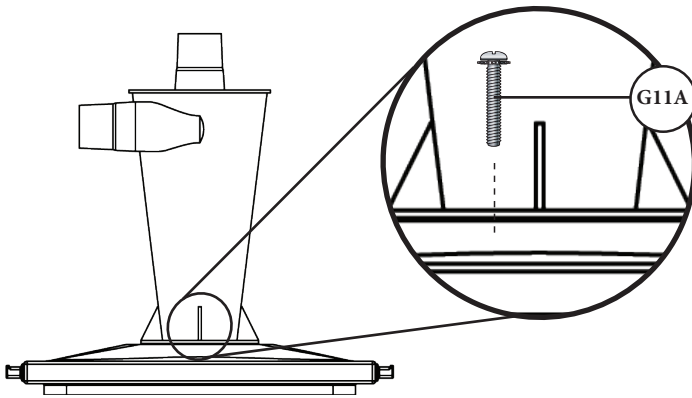

FIG. 8a
With a Phillips head screwdriver, attach the Cyclone (A) to the Dust Bin Lid (B) using the provided Screws (G11A). The cyclone's side-facing inlet should be pointed towards the shorter side of the lid [FIG. 8a]. Tighten the Screws in a crisscrossing star pattern [FIG. 8b].